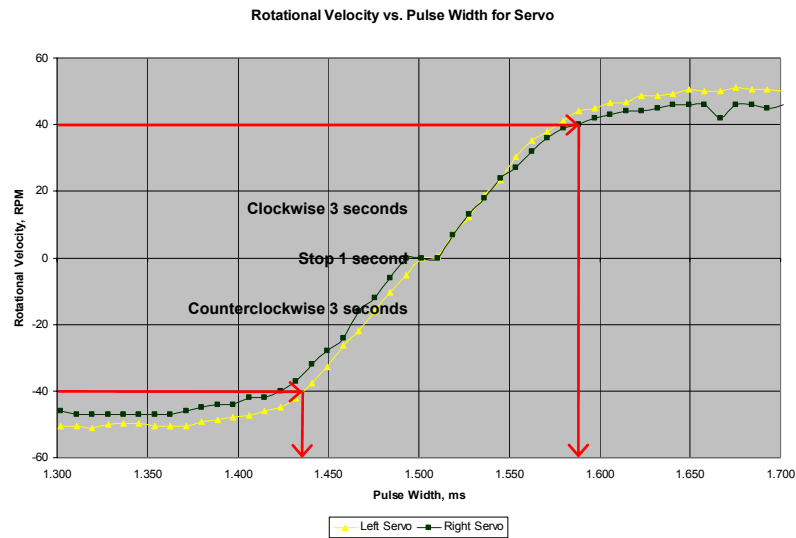

Figure 3-21
4. *Advanced Project* – Use the transfer curves for the left and right servos to predict **PULSOUT Duration** arguments that will make the left servo travel one speed and the right servo travel the same speed in the opposite direction. Figure 3-21 shows an example of how this can work to make a left servo turn 40 RPM clockwise and the right servo turn 40 RPM counterclockwise. Notice that the left servo needs approximately 1.440 ms pulses while the right servo needs 1.590 ms pulses. You can multiply each of these values by 500 to determine the **PULSOUT Duration** arguments. Try this using your transfer curves and your servos.
The servos in this example are intentionally mismatched. It helps demonstrate that physical problems such as servos that turn at different speeds can be easily overcome by modifying the PBASIC program that's controlling the servos. Setting the pulse width for each servo is a simple matter of a ***Duration*** value in each **PULSOUT** command. In the case of Figure 3-21, the PBASIC commands to match the servo speeds are: